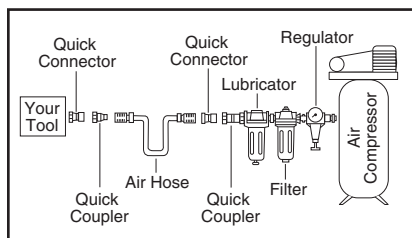

Figure 4. Installed filter/lubricator/regulator.
8. Connect spray gun to compressed air source. To improve tool lifespan and avoid contaminating material with water from air supply lines, use a filter/lubricator/regulator setup, as shown in **Figure 4**.